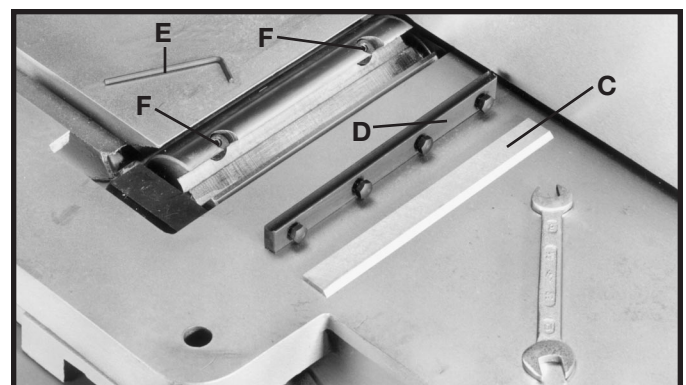

Fig. 57
4. Fig. 57, shows the knife (C) and knife locking bar (D) removed from the cutterhead. Remove the remaining two knives and locking bars, in the same manner.
5. Using wrench (E) Fig. 57, lower the two knife adjustment blocks by turning screws (F) counterclockwise in all three slots of the cutterhead.
7. Replace the knife locking bars (D) Fig. 57, and knives (C) into each slot in the cutterhead.